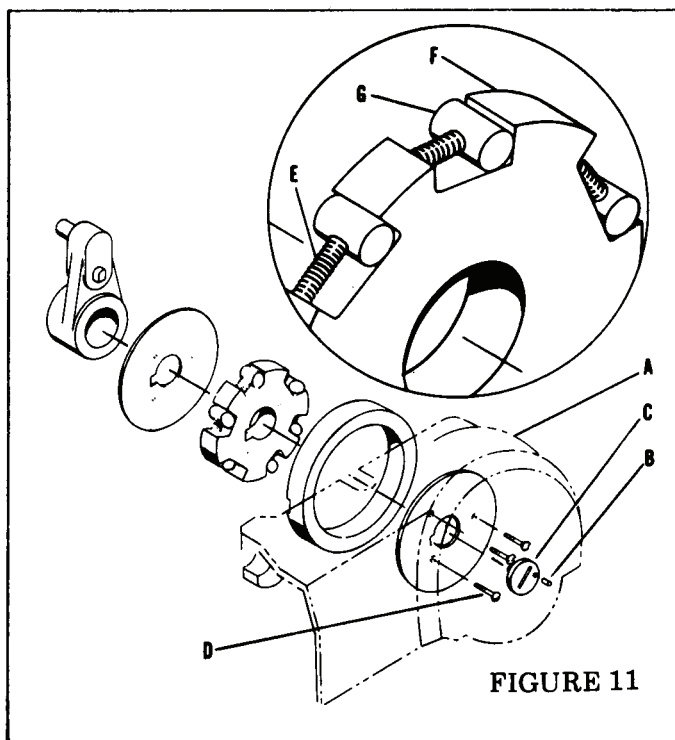

FIGURE 11
1. Remove wire feed guard (Index A, figure 11).
2. Loosen set screw (Index B, figure 11).
3. Remove clutch screw (Index C, figure 11) and slide clutch from shaft.
4. Remove three screws (Index D, figure 11) and lift off front plate.